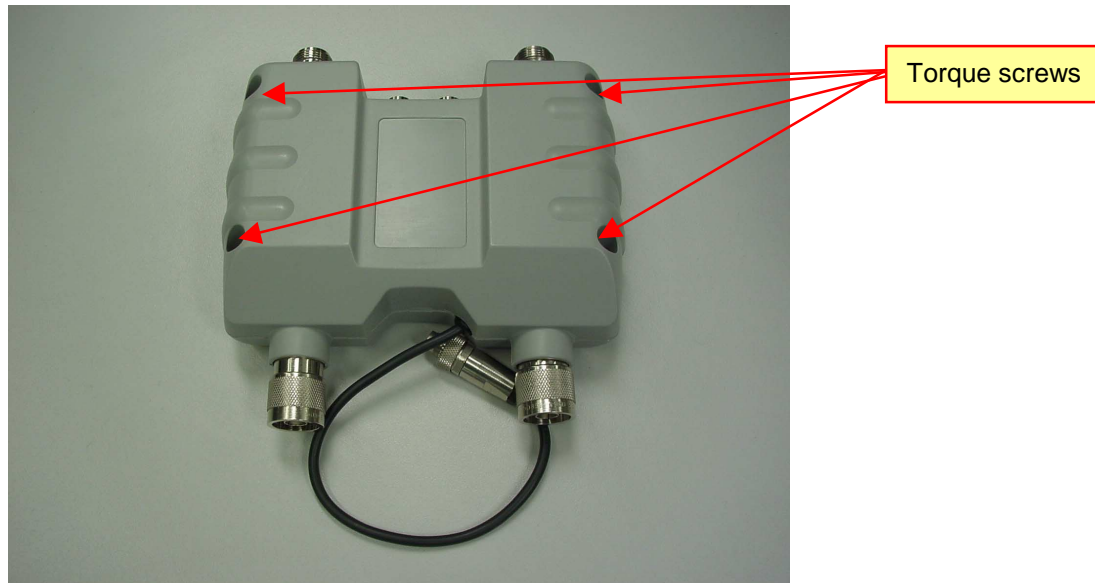

Fig. 3-2 Opening the instrument
- Loosen the four screws, see Fig 3-2.